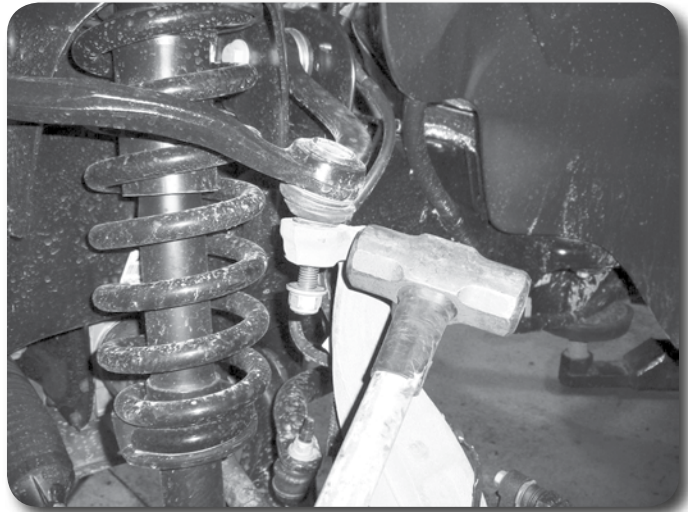

Figure 11
16. Remove the upper and lower ball joint nuts **Figure 11** and reinstall a few turns.